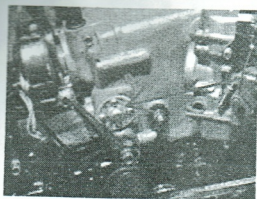

Fig. 11a
-Undo four screws Mx5 and remove the right hand cover of the gearbox, covering the shaft of the quadrant. (Fig. 11a)